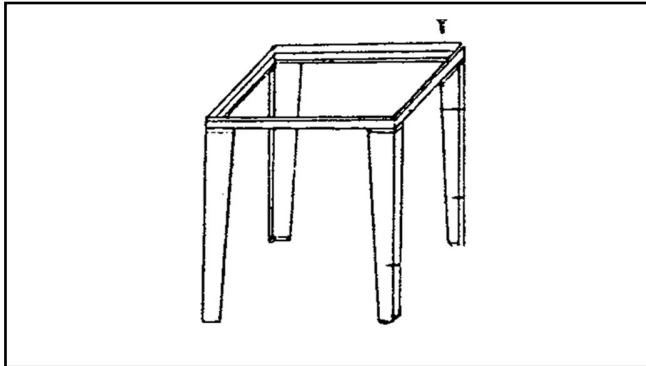

Figure 1. Stand frame.
1. Install the four legs onto the stand frame with 12 M6-1x20 screws and nuts (**Figure 1**).